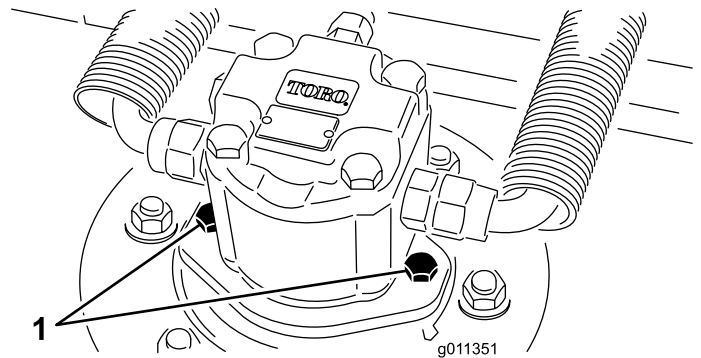

Figure 61
2. Disconnect and remove the hydraulic motor from the deck (Figure 61). Cover the top of the spindle to prevent contamination.
4. Install the hydraulic motor to the deck (Figure 61). Make sure that the O-ring is in position and not damaged.